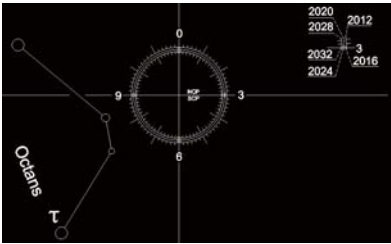

Fig 28
3. See through the eyepiece to make sure the pattern is oriented as shown in Fig 28. If the pattern is rotated, please refer to " **Appendix I: Calibrate the Polar Scope**"